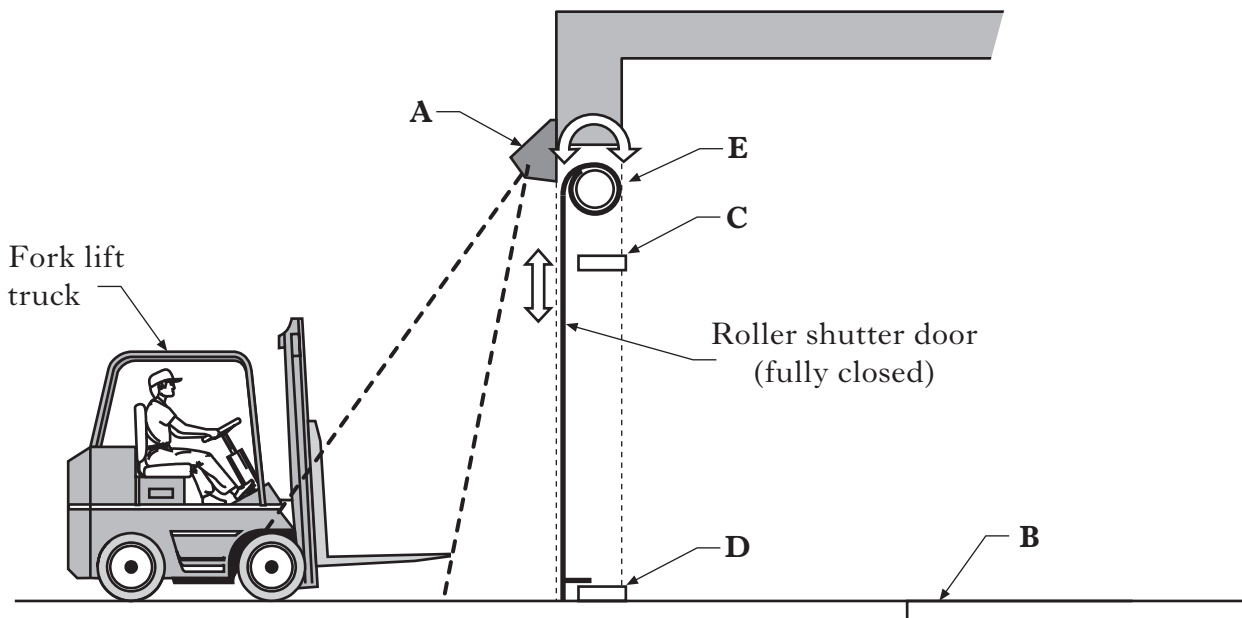

Figure Q11
11. A sports stadium goods entrance uses a roller shutter door as shown in Figure Q11. Exit by this door is **not** allowed. The roller shutter door is controlled by a Programmable Logic Controller (PLC) using sensors and actuators.
The sensors and actuators have been carefully positioned and are identified by the letters A to E in Figure Q11. One of the sensors, B, is a complete truck length inside the door.
(i) in the **Letter** column, enter the letters A to D shown against each device in Figure Q11. 2
(ii) in the **Reason** column, state **one reason** why each sensor is placed in the position shown in Figure Q11. 2